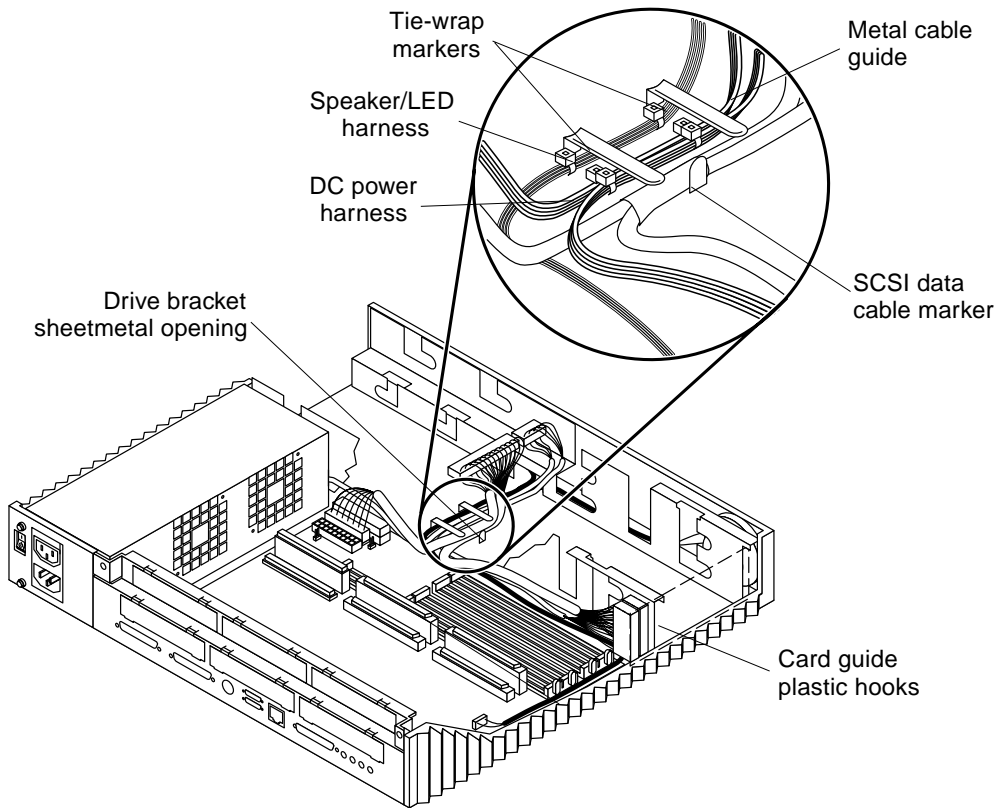

FIGURE 8-38 Detail of Cable Guide
Note – The SCSI data cable is a three-connector pigtail cable with colored tape that joins two of the cables closest to the P2 connector. Visual markers are placed on the cables to aid cable alignment. When properly installed, the SCSI data cable P1 connector is connected to the SCSI backplane with the tape aligned between the card guide plastic cable clips (see FIGURE 8-38). The SCSI data cable P3 connector is connected to the system board and threaded through the chassis wall metal cable guides. The SCSI data cable P2 connector is routed through the gap between the hard disk drive and the chassis wall. P2 connects to the SunCD 4 drive (if installed), or is secured under the chassis floor metal cable clips.
Note – The taped portion of the SCSI data cable should be positioned directly between the plastic card guide cable clips as shown in FIGURE 8-38.
11. Free the SCSI cable from the metal cable guides (FIGURE 8-38).